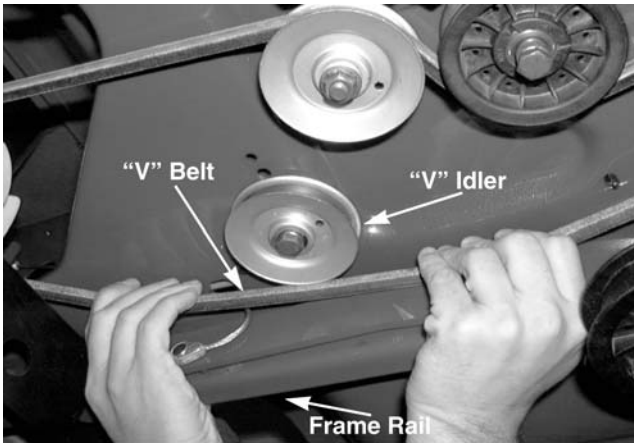

Figure 9-51
12. Squeeze both hands and release the "V" belt from the "V" idler. See Figure 9-51.